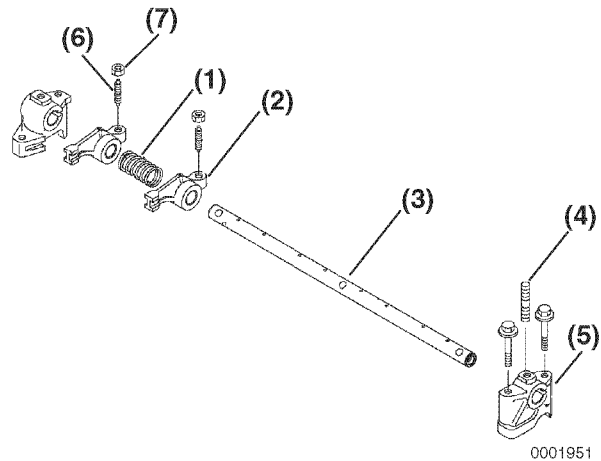

Figure 6-34
- Lubricate the rocker arm shaft. Slide the rocker arm supports (**Figure 6-34, (5)**), springs (**Figure 6-34, (1)**) and rocker arms (**Figure 6-34, (2)**) onto the shaft.
Note: To properly align the rocker arm shaft with the rocker arm shaft supports, first reinstall a rocker arm support (**Figure 6-34, (5)**) having a hole for the shaft alignment stud (**Figure 6-34, (4)**). Align the hole in the rocker arm shaft and the hole in the rocker arm support. Reinstall the alignment stud.
Note: **Figure 6-34** shows components for one cylinder. Components for all remaining cylinders are assembled in the same order.
- If removed, reinstall the valve adjusting screws (**Figure 6-34, (6)**) and the lock the nuts (**Figure 6-34, (7)**).